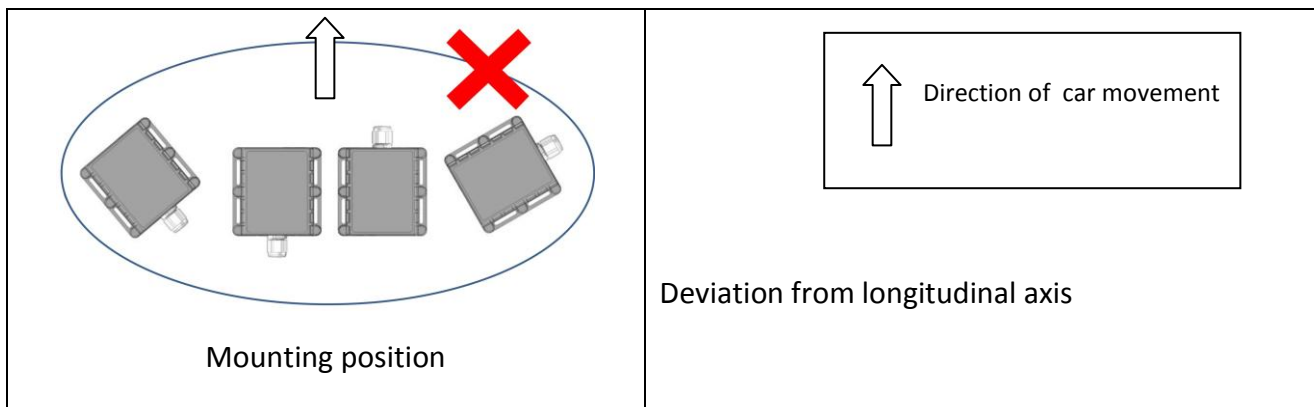

**Figure 43.** Mounting position and recommended deviation from horizontal axis of vehicle
2. Recommended deviation from horizontal axis of vehicle max 3-5°, as shown in figure 43.
1. If using Eco driving function device should be mounted horizontally to work properly, see Figure 43 and 44.